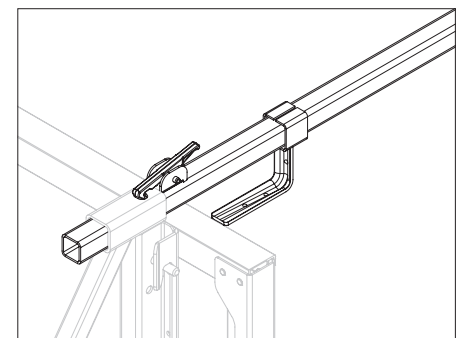

Fig. B3.08
Push the Guardrail Posts MXK (52) into the support (50.4) of the Scaffold Bracket MXK until the securing hook (52.1) locks into the hole (50.5) (Fig. B3.08) → Guardrail Post MXK is now secured.
The securing hook must be held in position with spring force. (Fig. B3.08) If the spring force is missing, the Guardrail Post MXK must not be used!